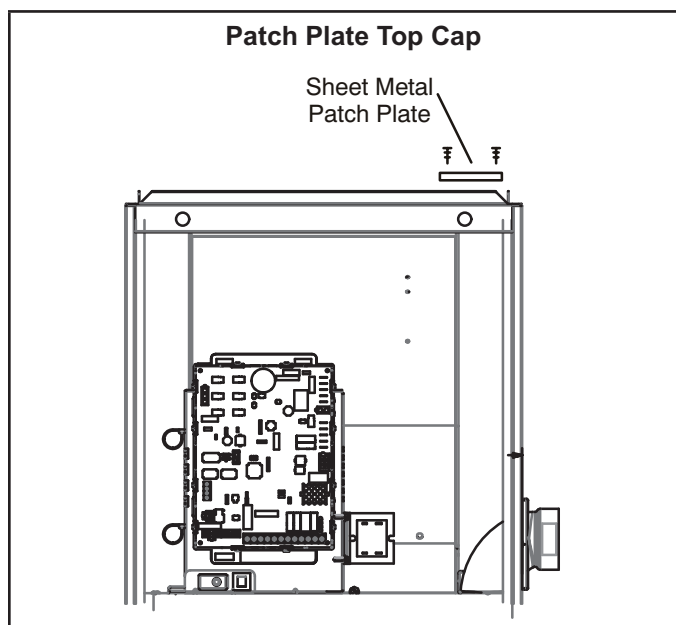

FIGURE 14
- 8 - Re-use the patch plate to cover the hole in the top cap. See FIGURE 14. Remove the 2 screws which secure the top cap to the furnace on the right side and re-install securing the right edge of the patch plate and the right side of the top cap to the furnace. Use 2 self-drilling sheet metal screws (provided) to finish securing the left edge of the patch plate on the left side.